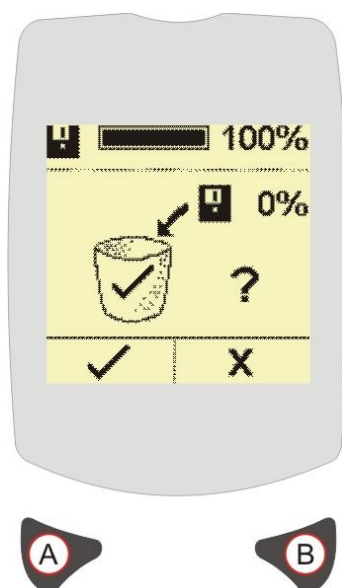

Figure 11 Memory Discharge Screen
Initially press the Right key (B) if the intention is to delete the data in the memory. Then press the Left key (A) to confirm deletion as shown below in Figure 11. When the data in memory has been deleted the screen will show 0% and return to the Time and Date screen automatically.